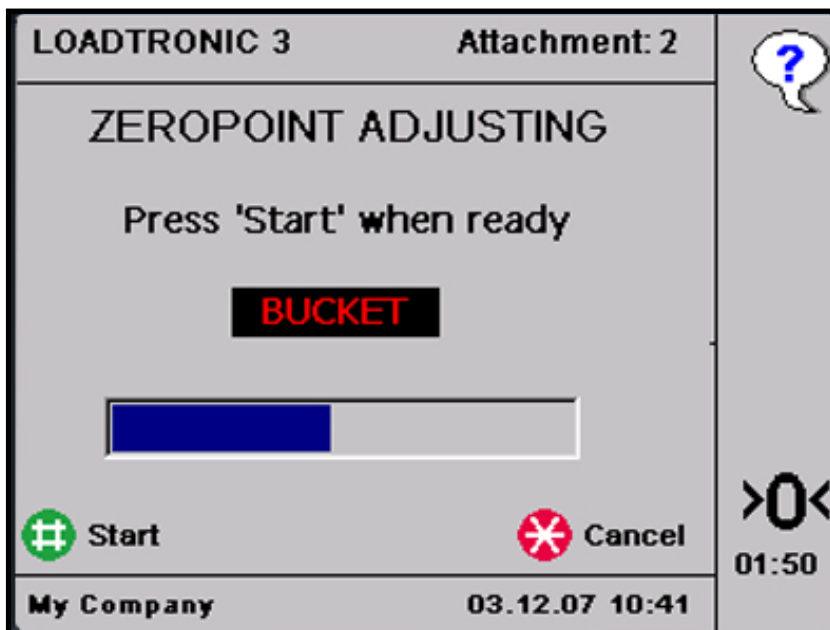

Figure 3-9 Retract the bucket before a zeropoint adjustment.
*Note! If the bucket is not fully retracted, an error message appears on the screen: 'Bucket', refer Figure 3-9. Retract the bucket and press Start.*